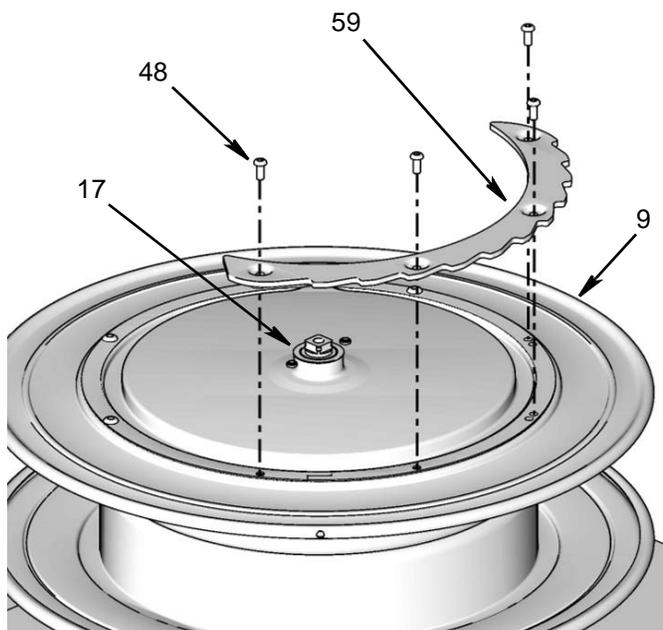

FIG. 7
12. Remove snap ring (25).
14. Remove washer (17) (FIG. 7).
15. Remove screws (48) and ratchet (59) from spool. Set these parts aside to reinstall on the new spool (FIG. 7).
2. Install ratchet (59) to side of spool using screws (48) (FIG. 7).